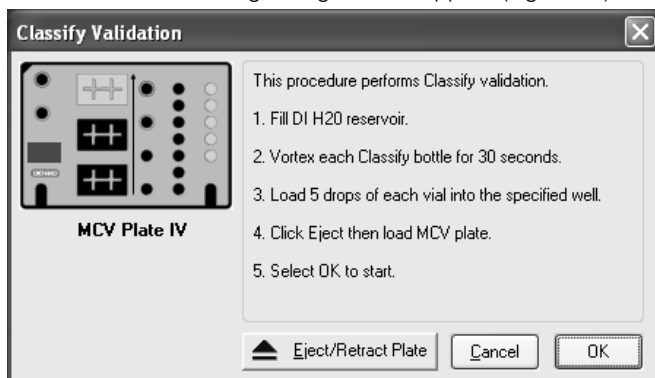

Fig. 10. Classify validation dialog.
6. Enter the User name and select control number. Select **Classify Validation**. Select **OK**. The following dialog box will appear (Figure 10):